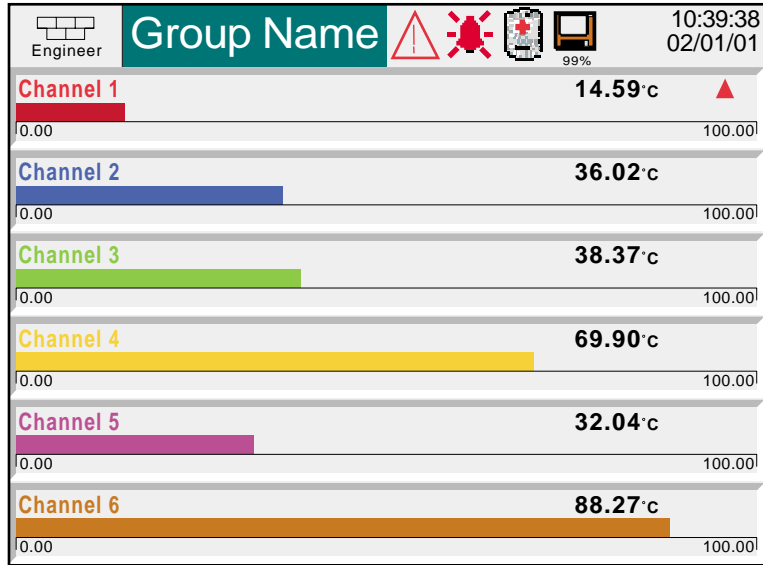

Figure 3.4.4 Horizontal bargraph display
Entered from Vertical bargraph mode by means of the root menu 'Cycle' key, this display mode shows the Process Variable (PV) values as horizontal bars with digital values and alarm data displayed, as shown in figure 3.4.4. Review mode is not available from this display mode.